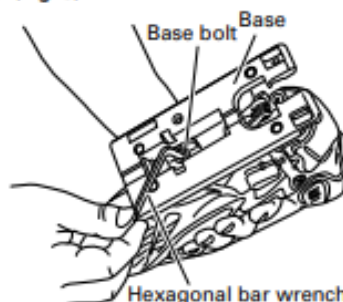
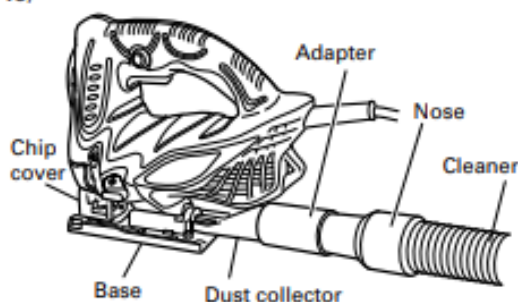

Fig. 9
Fig. 16
(1) Loosen the base bolt hexagonal bar wrench attached on base. (Fig. 9)
(1) Loosen the base bolt by hexagonal bar wrench attached on base and move the base fully forward. (Fig. 9, 10)
(3) Tighten the M5 bolt again. (Fig. 9)
(4) Set the orbital position to "0".
- (1) Remove the hexagonal bar wrench from the base.
- (2) Move the base fully forward. (Fig. 9, 10)
- (3) Attach the chip cover.
- (4) Connect the dust collector with adapter. (Fig. 16)
- (5) Connect the adapter with the nose of cleaner. (Fig. 16)